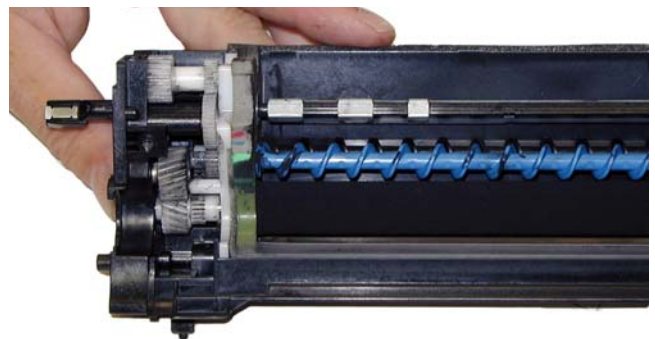

Figure 44
24) There is no need to remove the gear end cap, just make sure the gears are free from excess toner. See **Figure 44**